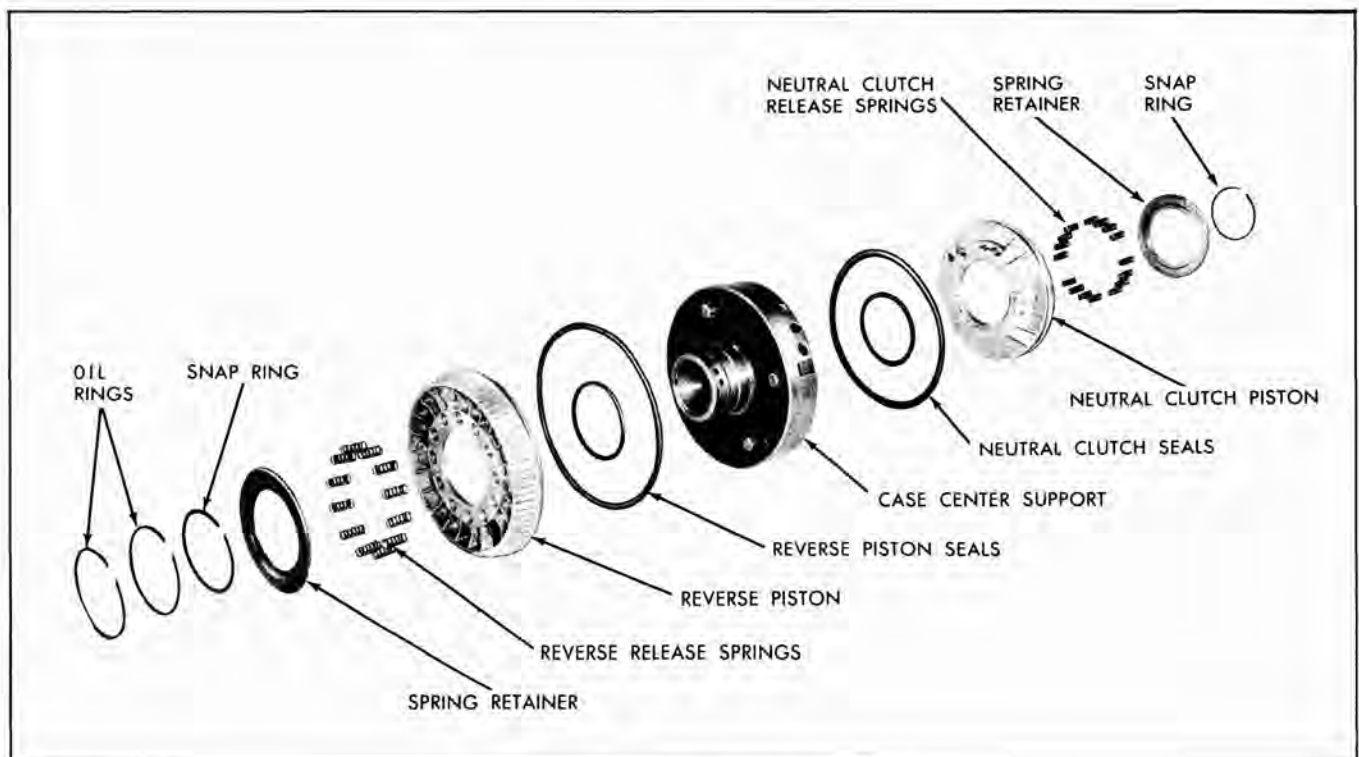

Fig. 86 Case Center Support—Exploded
1. Remove 2 oil delivery sleeve hook type oil seal rings from case center support (Fig. 86).